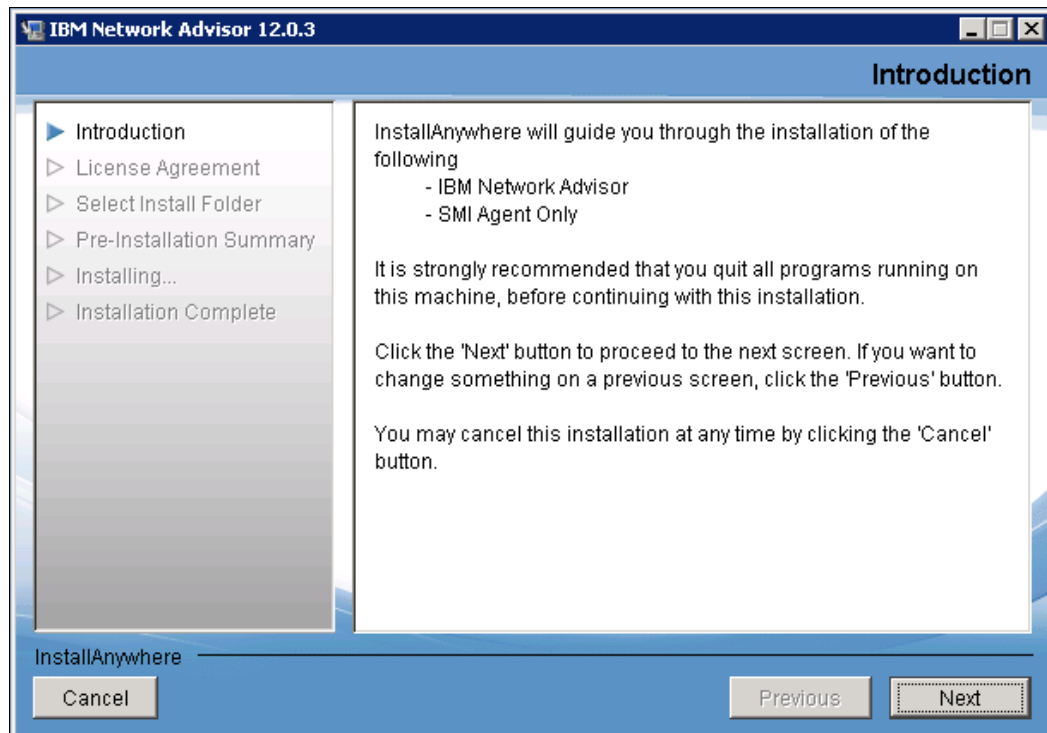

Figure 3-1 Introduction window for installation
2. Figure 3-1 shows the Introduction window for the installation. Click **Next** to proceed or **Cancel** to exit the upgrade.